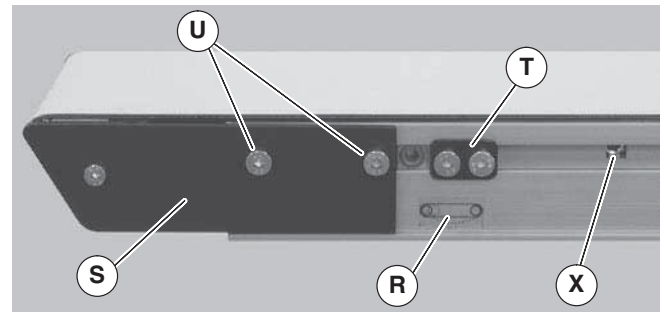

Figure 27
1. On tension end of the conveyor, identified with a  label (Figure 27, item R), adjust head plate assembly (S): On both sides of conveyor, loosen fastening screws (U) and rotate pinion gear (X) to adjust head plate assembly.
- After adjusting proper tensioning, tighten fastening screws (Figure 27, item U) on both sides of conveyor to 60 in-lb (7 Nm).
- If equipped with cam tracking assemblies (Figure 27, item T) position against head plates and adjust belt tracking. Refer to "Conveyor Belt Tracking", next section.